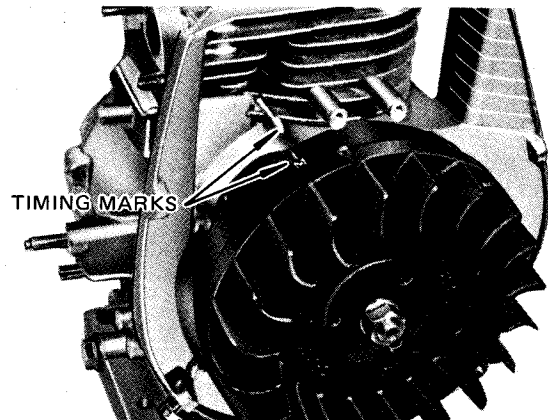

Fig. 6-3-3 (EY14)
- * EY14: Projection at upper left of crankcase (See Fig. 6-3-3.)